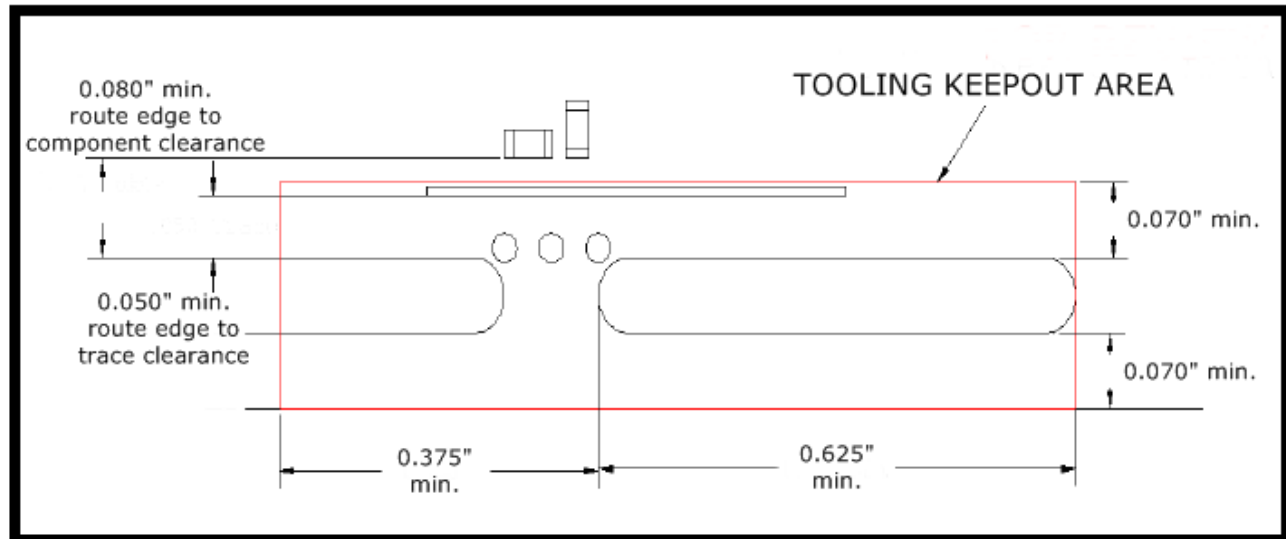
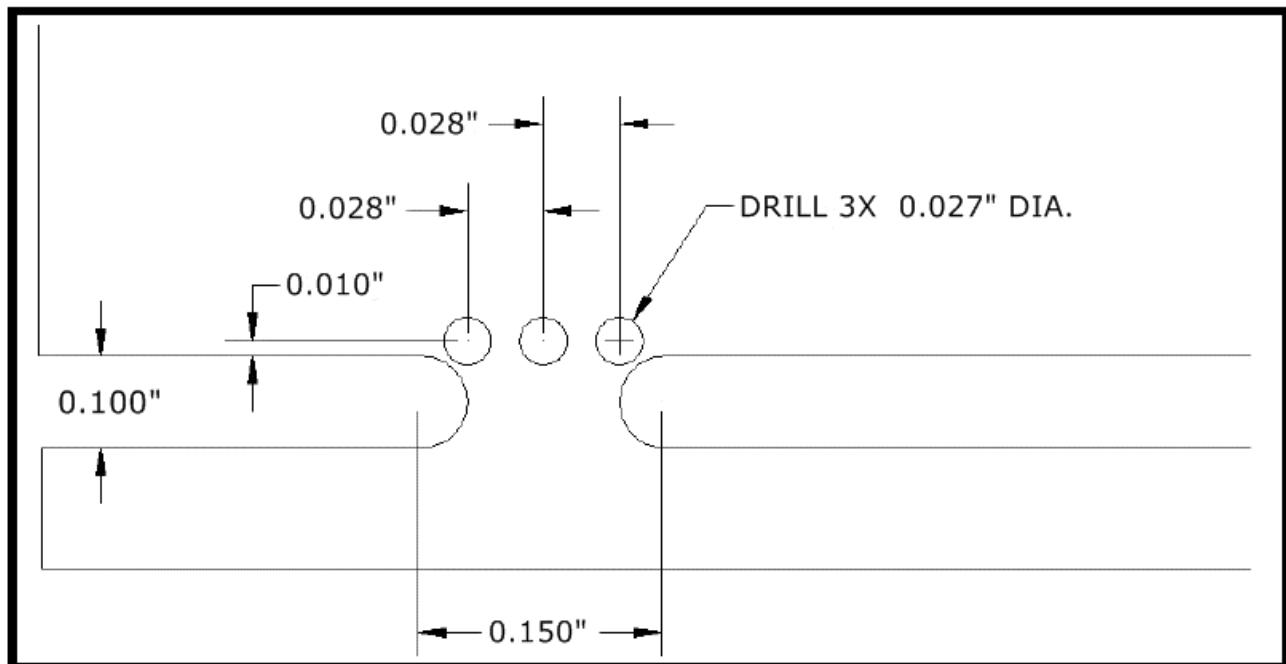

FIGURE 3
FIGURE 4
1. The following specifications apply to Tab depaneling for edge clearance and design layout. See Figure 3 for edge clearance and keepouts. See Figure 4 for Tab requirements.